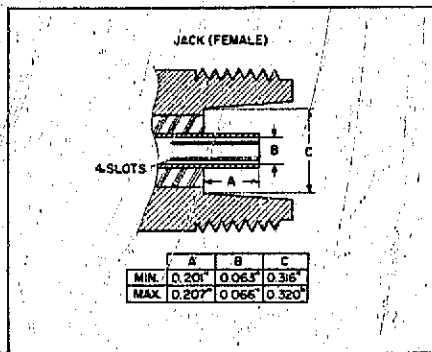

Figure 3. HP Type N Connector Dimensions
a. The type N connectors used on the Model 789C are stainless steel for long wear and are compatible with connectors whose dimensions conform to MIL-C-39012 or MIL-C-71 (see Figure 3).
**Mechanical Inspection.** Mechanical inspection should include periodic mechanical dimension checks on the female type N connectors (refer to Figure 3 for important dimensions). Also, any accumulated dust and dirt should be removed from connectors.